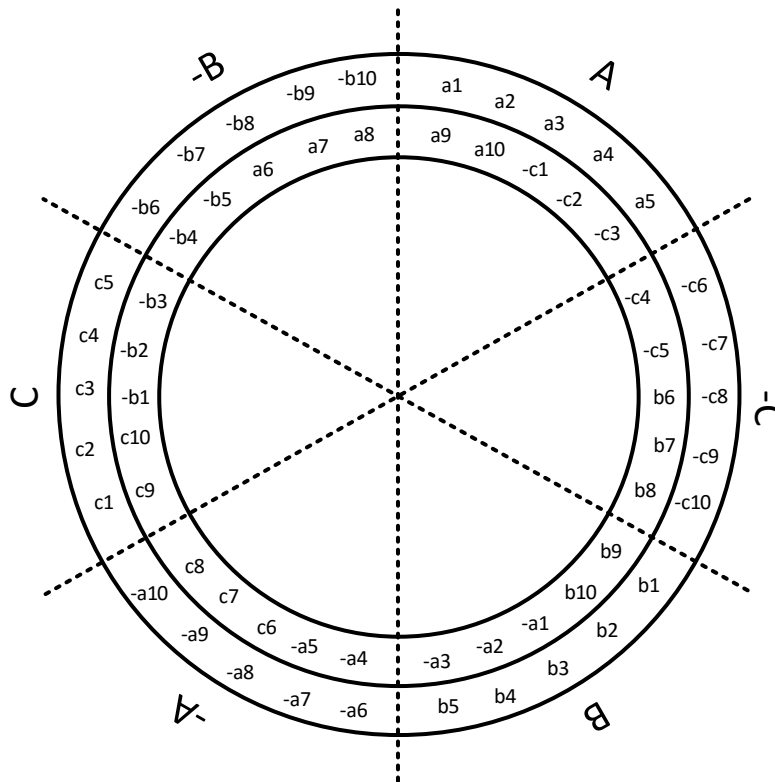

Figure 1: Stator Side of the AC Machine
Q.1. (50 pts) Consider the stator side (double layer) of a 50 Hz AC machine shown in Fig. 1. Each coil side has 8 turns.
Q.2. (30 pts) Consider the AC machine given in Figure 1. Suppose that the air gap flux density is given as: